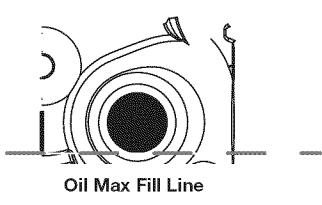
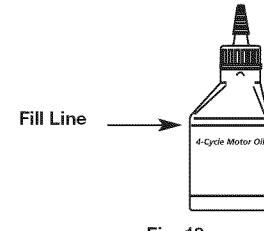

Fig. 14
Fig. 18
5. Look into the oil fill hole, use a flashlight if needed. The oil should be just touching the inner most thread (Fig. 14).
**NOTE:** Use the bottle and spout saved from initial use to measure the correct amount of oil. The top of the label on the bottle measures approximately 3.04 fl.oz. (90 ml) (Fig. 18). Check the level. See Checking the Oil Level. If the level is low, add a small amount of oil and recheck. Do not overfill (Fig. 14).